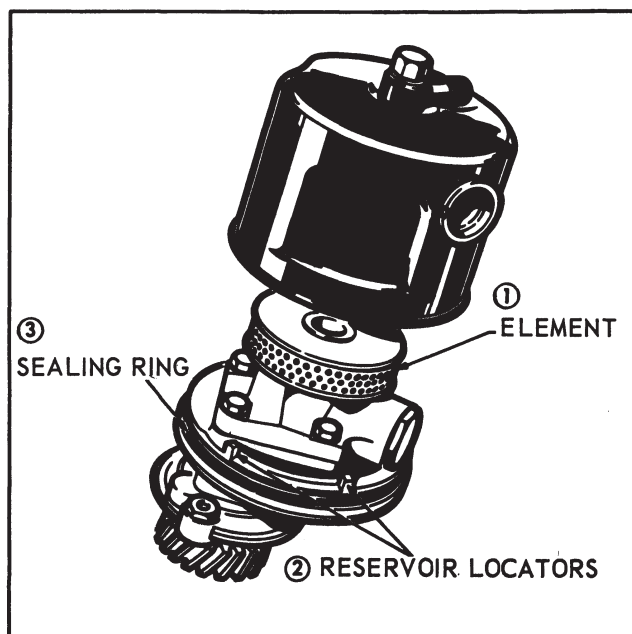

Figure 20
Clean the inside of the reservoir, install a new filter element and re-install the reservoir. The flat detent in the reservoir should be placed between the two locators on the pump (2), Figure 20.